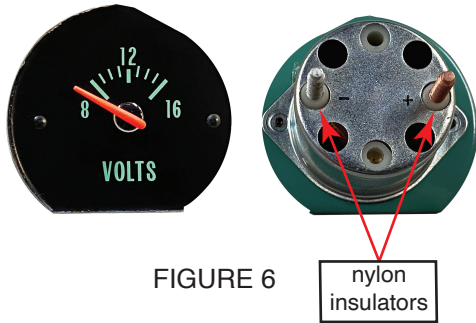

FIGURE 6
10. Install the new voltmeter into the mounting housing assembly being sure to align the two nylon insulators (See Figure 6) through the holes in the housing assembly.